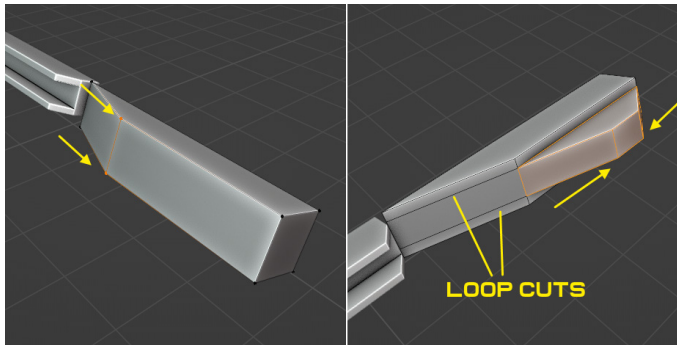

Figure 5.42 – End wing shape
8. Create another cube in front of this shape and push an edge from the back forward. Then, add loop cuts so that another shape can be extruded and push the edges together, as shown in *Figure 5.42*.